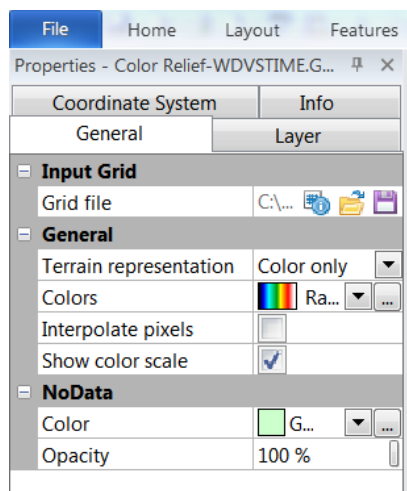

Fig. 20 :
- left-click image map to show properties in tab on left (Fig. 20)
- in *General, Terrain representation* change from *Hill shaded* to *Color only* (Fig. 20)
- in *General, Colors* change to *Rainbow2* (Fig. 20)
- uncheck *Interpolate pixels* box (Fig. 20)
- check *Show color scale* box (Fig. 20)
- in *NoData* change *Color* to *Ghost Green* (Fig. 20)